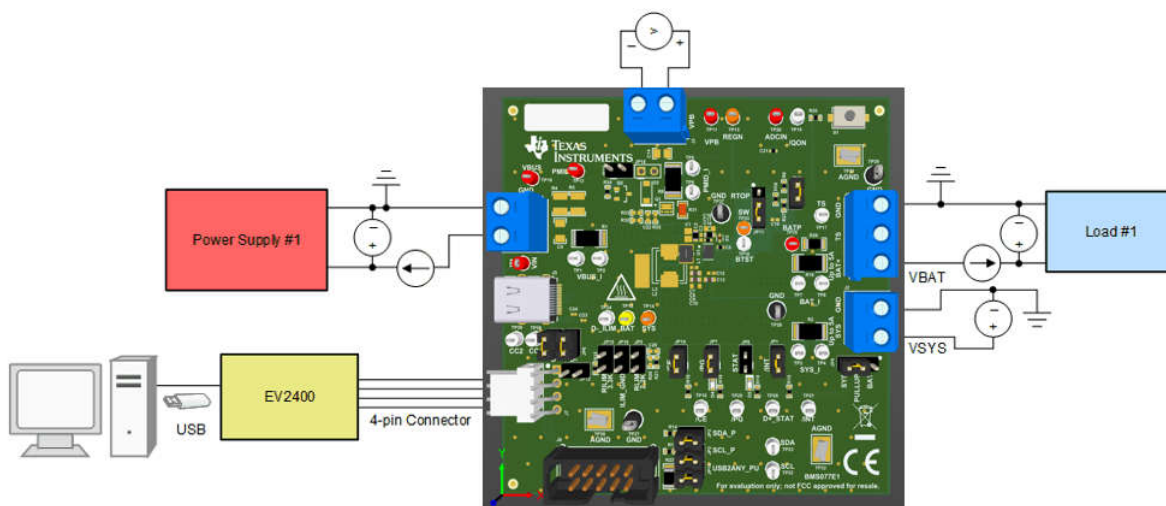

Figure 2-1. Test Setup for BQ25630 EVM
5. Turn on Load #1, set to constant voltage mode, and output to 2.5-V. Disable Load. Connect Load in series with a current meter (multimeter), ground side, to J4 (BAT and PGND) as shown in Figure 2-1 in not using a source meter with current measuring capabilities.
6. Connect a voltage meter across TP13 (BAT) and TP27 (PGND), or across J4-3 and J4-1 as in Figure 2-1.
7. Connect a voltage meter across TP14 (SYS) and TP27 (PGND), or across J2-1 and J2-2 as in Figure 2-1.
8. Connect a voltage meter across TP12 (PMID) and TP29 (PGND), or across J3-1 and J3-2 as in Figure 2-1.
9. Connect the EV2400 USB interface board to the computer with a USB cable and from I2C port to J5 with the 4-pin cable as in Figure 2-1.
10. Install shunts as shown in Table 2-2. Note that the shunts in Figure 2-1 are not necessarily installed per the table.